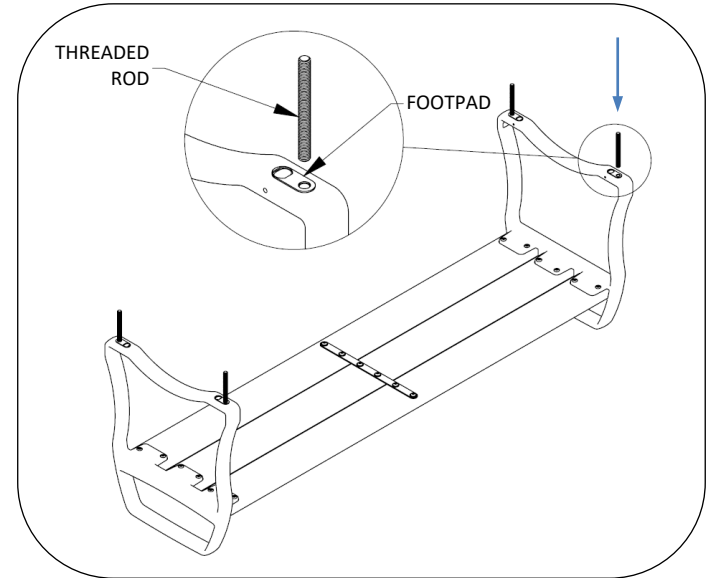

Fig. 3 – Install threaded rods
2. Leave footpads installed. Install four threaded rods as shown in Fig. 3.